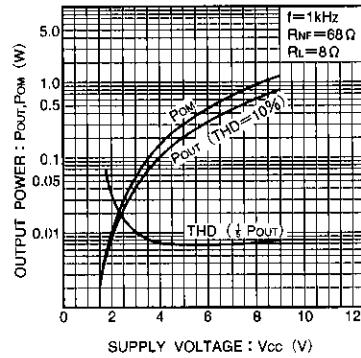

Fig. 2 Rated and max. output power and total harmonic distortion vs. supply voltage
- 1) High output. POUT = 330mW (Vcc = 6V and an 8Ω load (THD = 10%)). See Fig. 2.